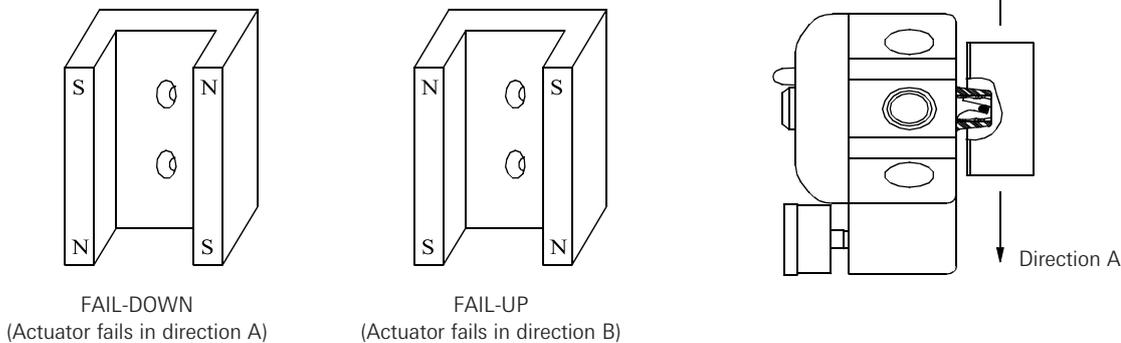
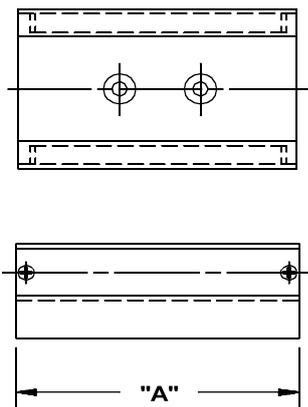

Figure 5-1
Figure 5-2
The magnetic assembly supplied with the positioner should correspond to the stroke length and failure direction of the actuator. To make sure you have the appropriate magnet assembly, check the part. The stroke length and failure direction should be printed on the part. On older SmartCal's the magnet assembly is not printed with this information, although there should be a serial number. Contact the factory with the serial number to verify that it is correctly matched to the actuator. (See Figure 5-1 & Figure 5-2).
- In the case of a linear application, the feedback magnet assembly needs to be ordered specific to the stroke of the actuator and the fail direction of the actuator. (See Figure 5-1 & 5-2).